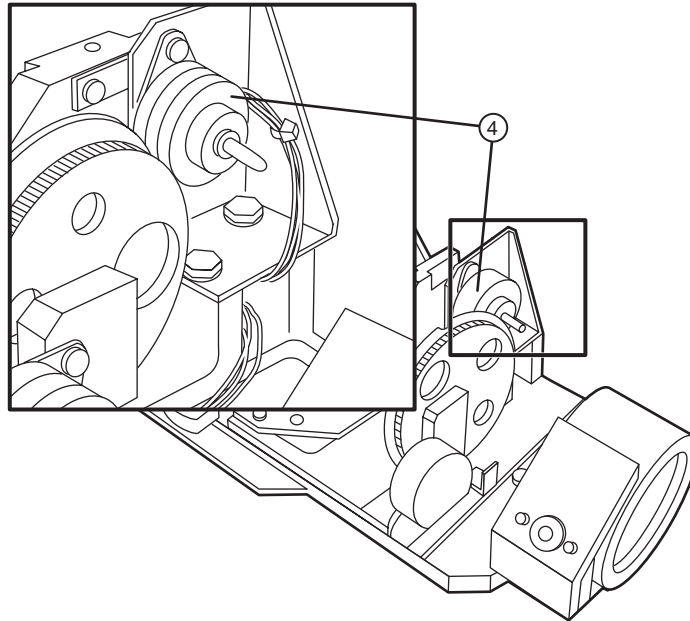

Figure 4-38 Weak lens motor location.
5. Remove the hex screws securing the weak lens motor to the SGM casting. Refer to Figure 4-38.